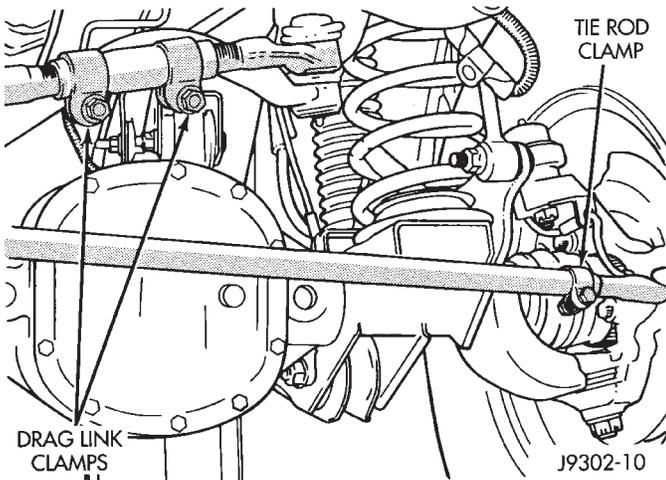

Fig. 3 Tie Rod/Drag Link Clamp Bolt
(1) If necessary, install the tie rod ends in the tube. Position the tie rod clamp (Fig. 3) and tighten to:
(2) Install the tie rod on the drag link and steering knuckle. Install the retaining nuts.
(3) Tighten the ball stud nut on the steering knuckle to 47 N·m (35 ft. lbs.). Tighten the ball stud nut to drag link to 75 N·m (55 ft. lbs.) torque. Install new cotter pins and bend end 60°.
(1) Install the drag link adjustment sleeve and tie rod end. Position clamp bolts (Fig. 3).
(2) Position the drag link at the steering linkage. Install the drag link to the steering knuckle nut. Do the same for the tie rod and pitman arm.
(3) Tighten the nut at the steering knuckle to 47 N·m (35 ft. lbs.). Tighten the pitman nut to 81 N·m (60 ft. lbs.) and tie rod ball stud nut to 47 N·m (35 ft. lbs.). Install new cotter pins and bend end 60°.